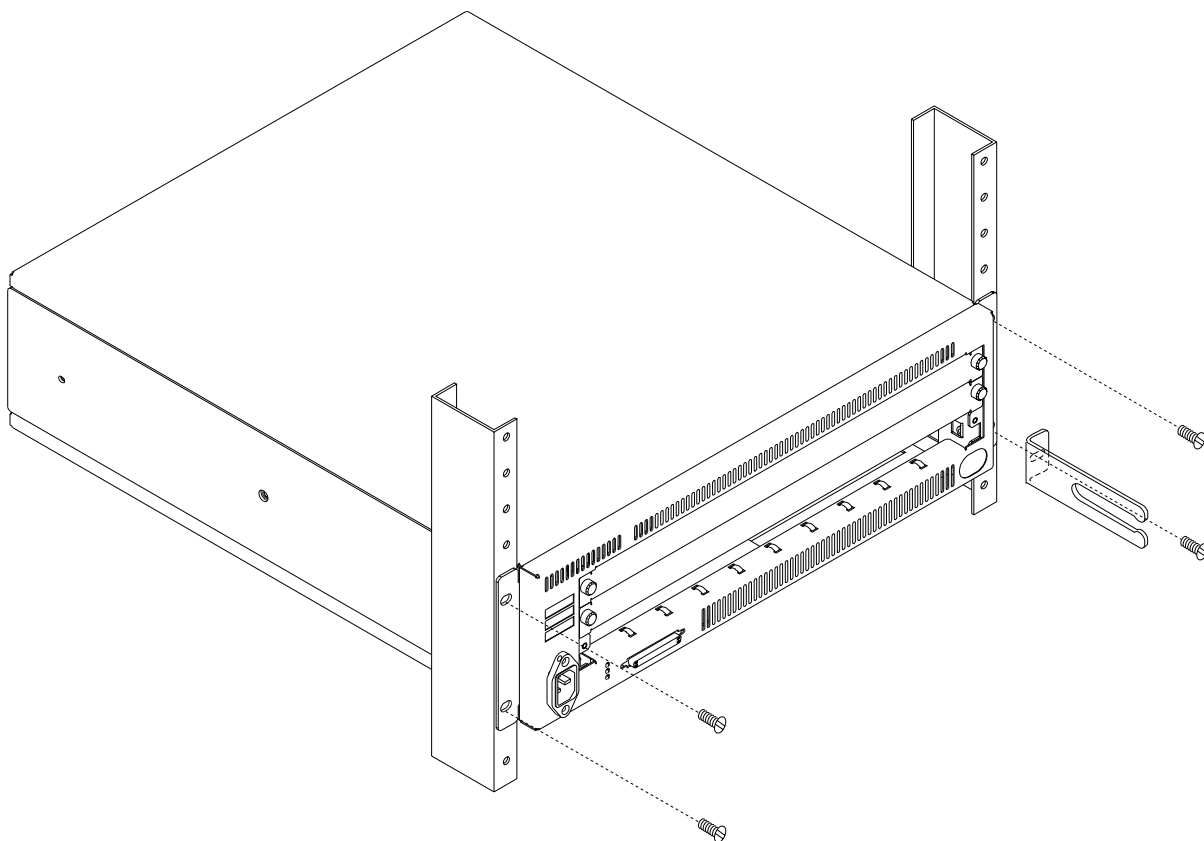

Figure 30. Rack Mounting the Expansion Unit
- **3** Align the hole in the cable management bracket with the holes on the right-hand mounting bracket and the rack. Using one screw, secure the cable management bracket and the lower right-hand side of the unit in the rack. This is shown in Figure 30 on page 62.